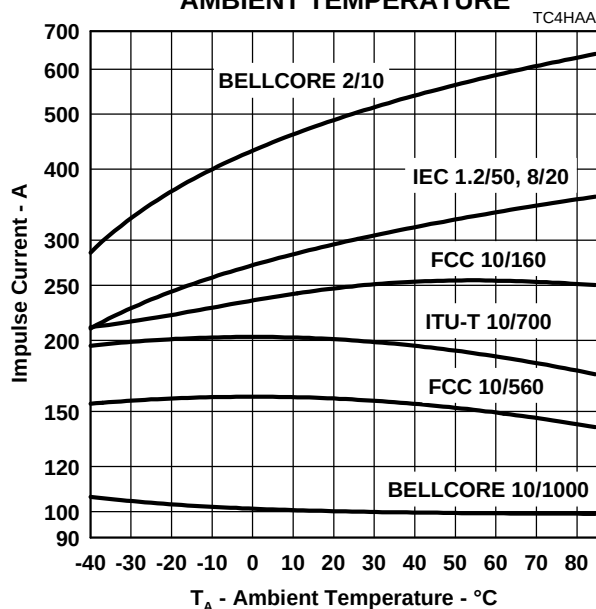

Figure 10.
4. See Figure 10 for impulse current ratings at other temperatures. Above 85°C , derate linearly to zero at 150°C lead temperature.
If the impulse generator current exceeds the protectors current rating then a series resistance can be used to reduce the current to the protectors rated value and so prevent possible failure. The required value of series resistance for a given waveform is given by the following calculations. First, the minimum total circuit impedance is found by dividing the impulse generators peak voltage by the protectors rated current. The impulse generators fictive impedance (generators peak voltage divided by peak short circuit current) is then subtracted from the minimum total circuit impedance to give the required value of series resistance. In some cases the equipment will require verification over a temperature range. By using the rated waveform values from Figure 10, the appropriate series resistor value can be calculated for ambient temperatures in the range of -40 °C to 85 °C.